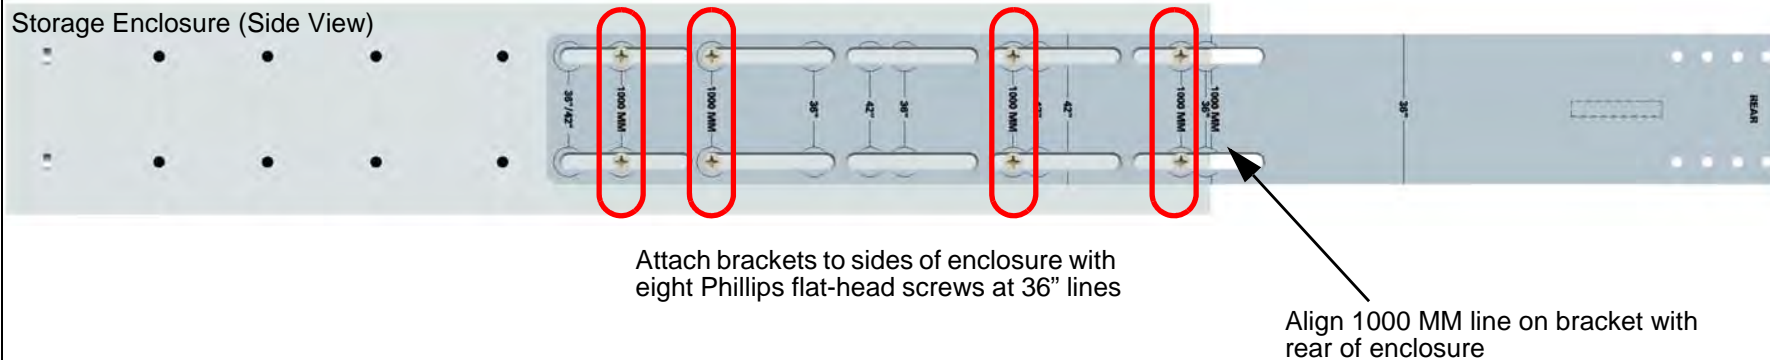

Figure 2.11 - Storage Enclosure Install, Four-Post Rack, Front Mount (1000 MM Rack)
- 1000 MM rack (see Figure 2.11)